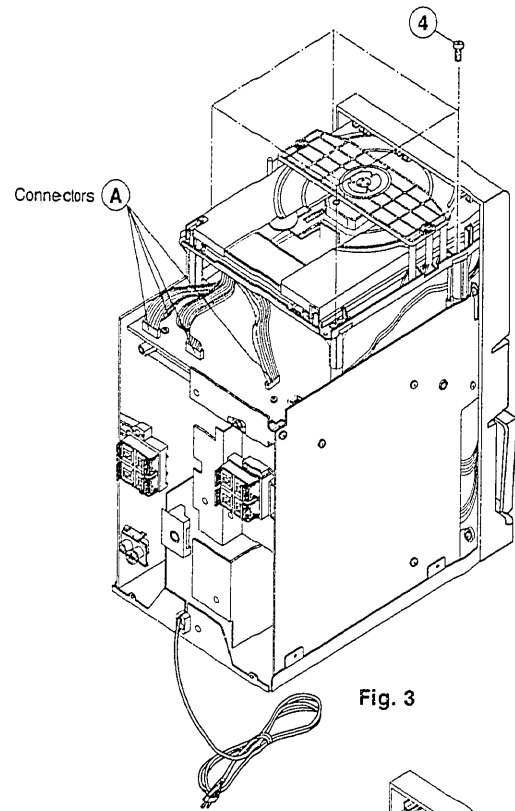

Fig. 3
3. **Removal of CD Mecha Deck (Fig. 3)**